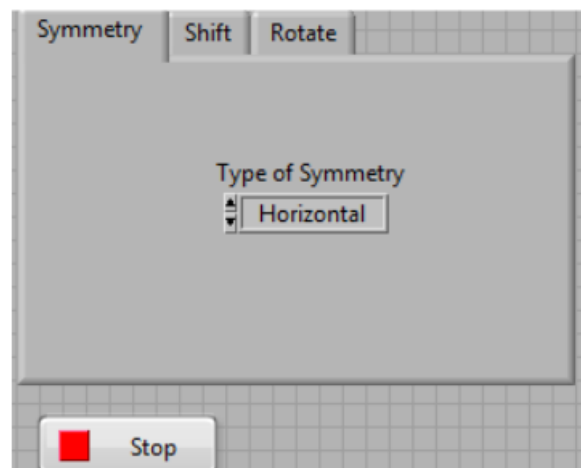

Figure 15: Front Panel of Example 4
1. Build a **Front Panel** as shown in Figure 15. First, add a **Tab Control** with 3 pages as **Symmetry**, **Shift** and **Rotate**.